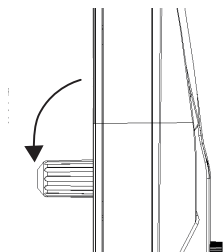

Fig. 6
1. Tilt the CO₂ cartridge sheath in the cover downwards to a maximum angle of 90° and unscrew the housing (Fig. 6).